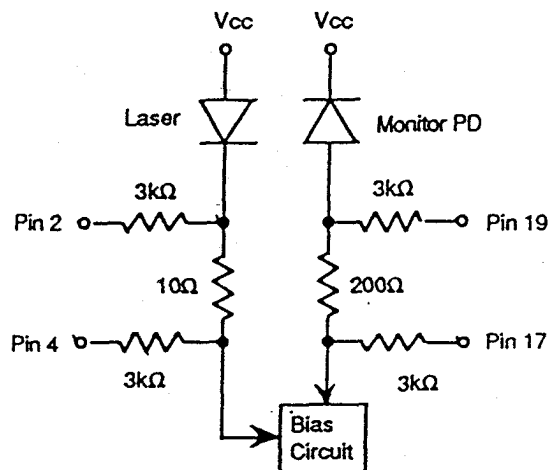

Figure 3 Monitor Circuit Schematic Diagram
7. The Laser Bias and Rear Facet Monitor currents are calculated as ratios of the corresponding voltages to their current-sensing resistors,  $10\ \Omega$  and  $200\ \Omega$ , respectively ( See Figure 3 ). Upon measuring or utilizing these values, use a device whose input impedance is high enough compared with those resistors.
3. Please refer to Figure 3 for Pin 2, 4, 17 19.